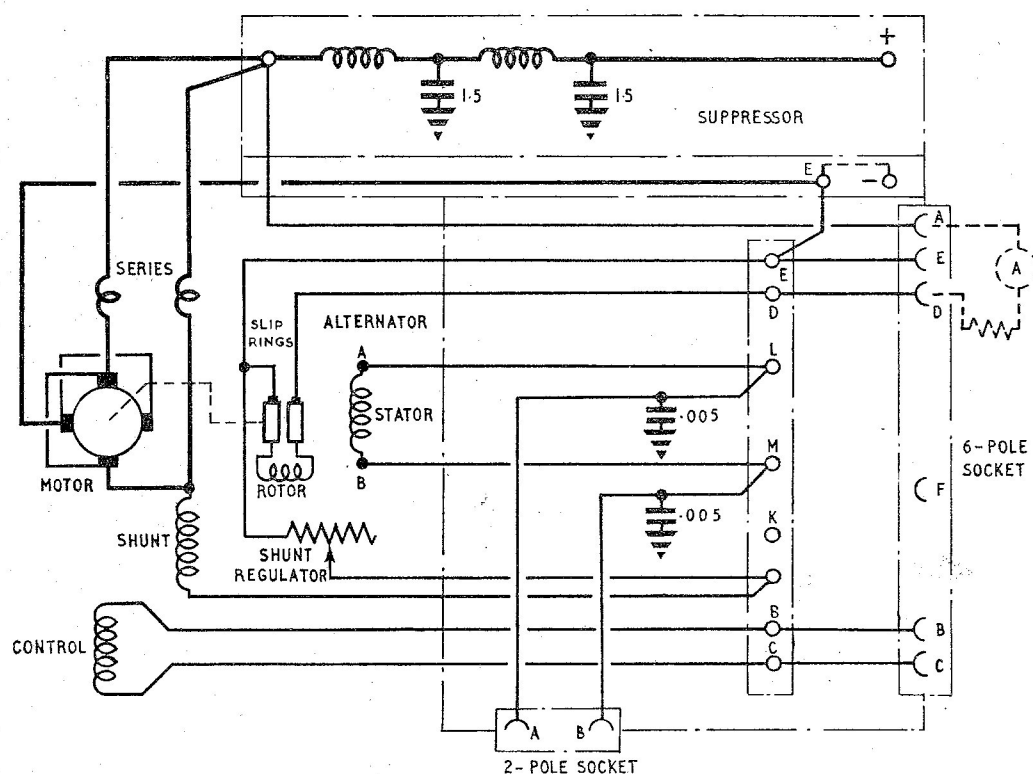

Fig. 1. Diagram of internal connections
1. The inverter, Rotax, Type S3307, is generally similar in construction to that described in the main chapter. When used in conjunction with a control panel, Type 26 (Rotax U1504), it will give an output of 115-volts, 400 c/s, single-phase a.c. from a 25-28 volt d.c. input, supplying either (a) 770W at a lagging power factor of between 1.0 and 0.84, or (b) 650W at a leading power factor of between 1.0 and 0.95. It is used with a starting switch, Type 1A, No. 5 (Rotax U2005/1), and must not be started up on load. The internal connections are as shown in fig. 1.